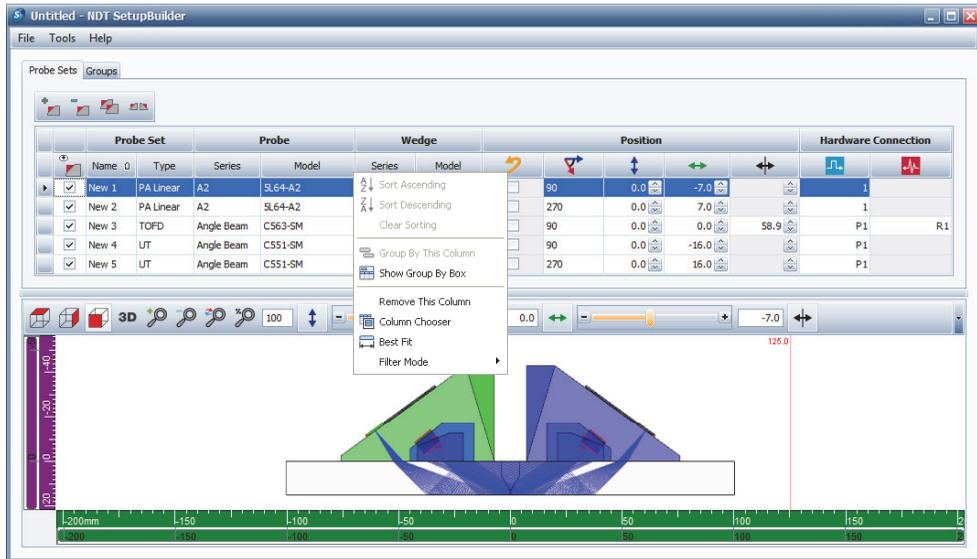

Figure 4-10 Best-fitting the data within a column on a tab
- ◆ Right-click a column header on **Probe Sets** or **Groups** tab, and then, on the shortcut menu, click **Best-Fit** (see Figure 4-10 on page 39).